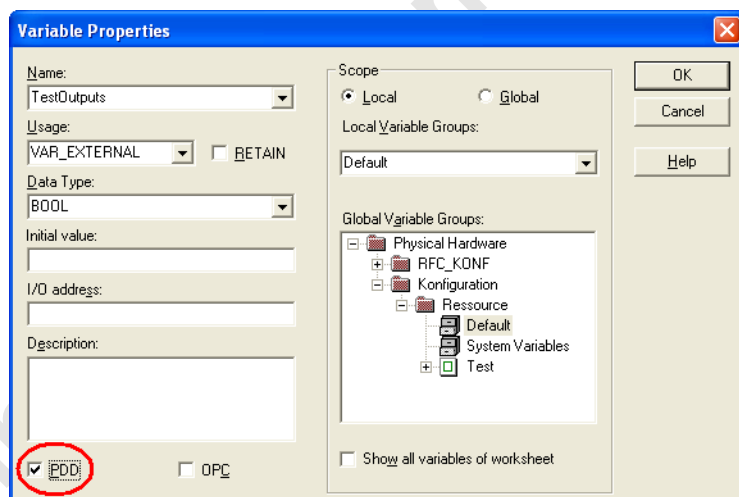

Figure A-1 Defining variables for WebVisit
- In the "Variable Properties" window (Figure A-1)